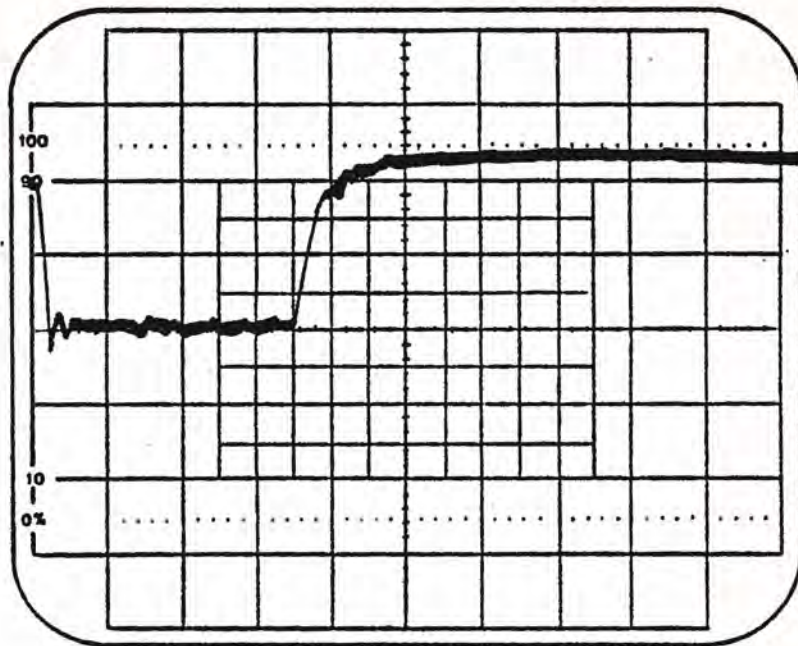

Figure 3-5
- 3) Unselected blocks will have a single negative going pulse (Figure 3-5).